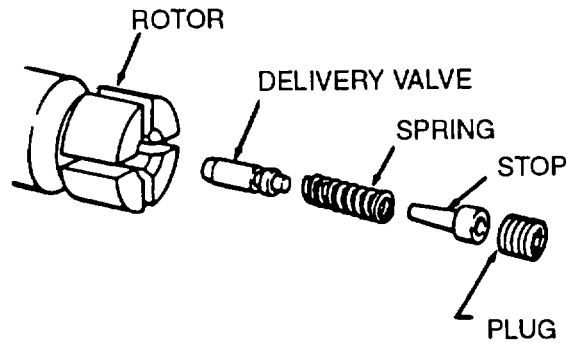

FIGURE 3-89. Delivery Valve Replacement
- i. Using extractor (13383), install delivery valve (37) into bore of rotor. Ensure it slides freely in its bore, refer to FIGURE 3-89.